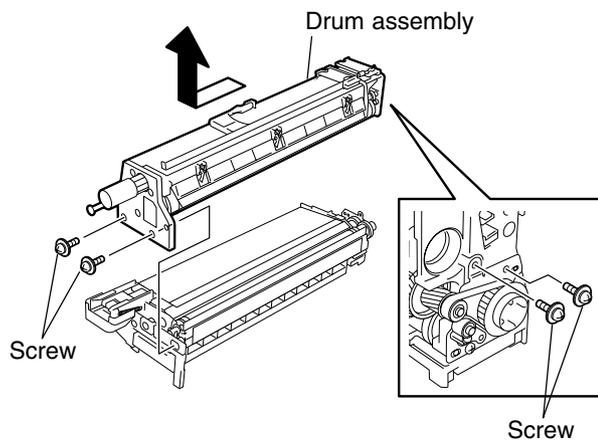

Fig. 3-4-2
3. Detach the drum assembly. (See Fig. 3-4-2.)
2. Detach the drum assembly. (See Fig. 3-4-2.)